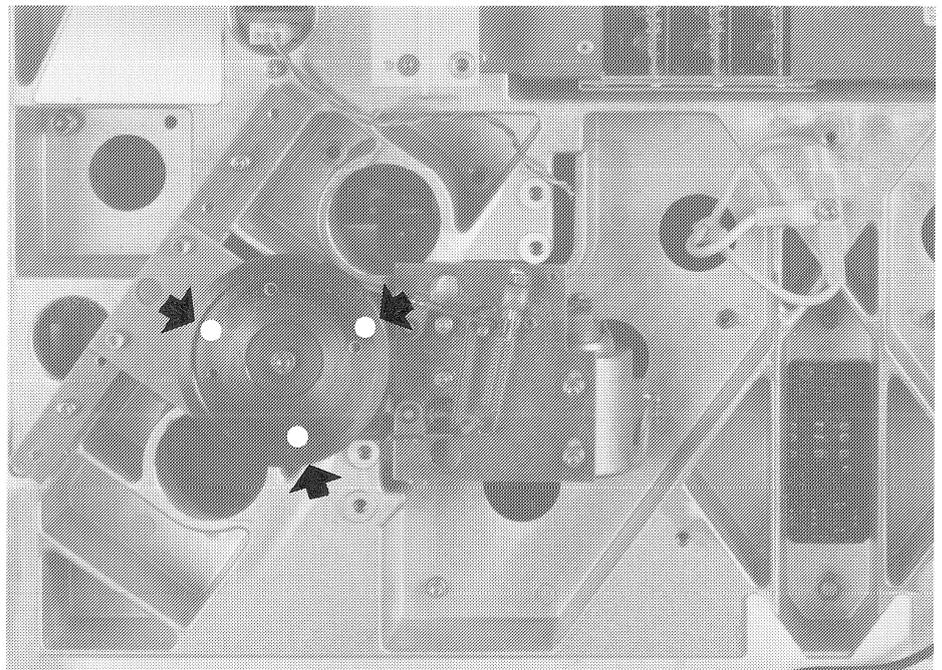

Fig. 55 Removing the spooling motor
- Unfasten three 4 mm hexagon-socket-head screws while supporting the motor from the bottom, see Fig. 55.